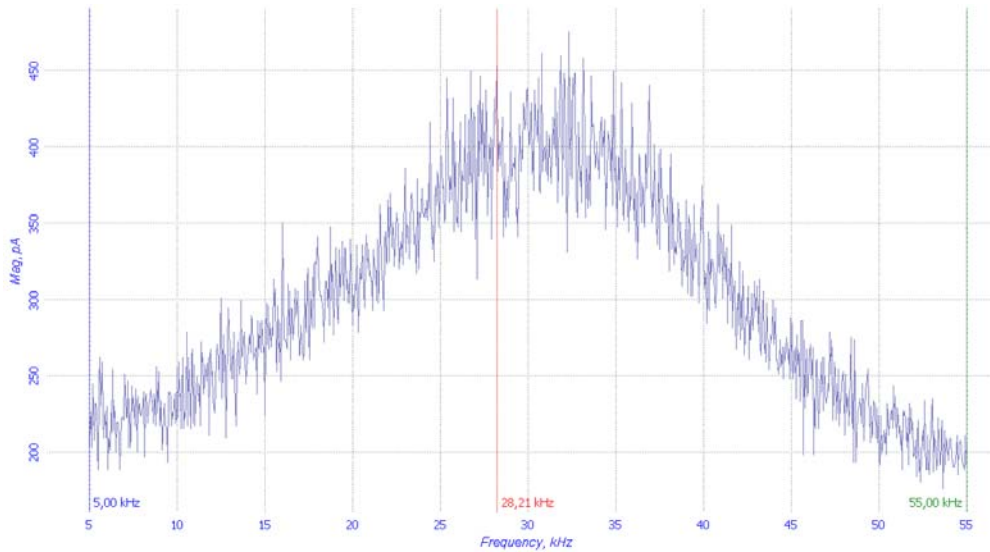

Fig. 1-5
- cantilever thermal noise will be measured (Fig. 1-5);